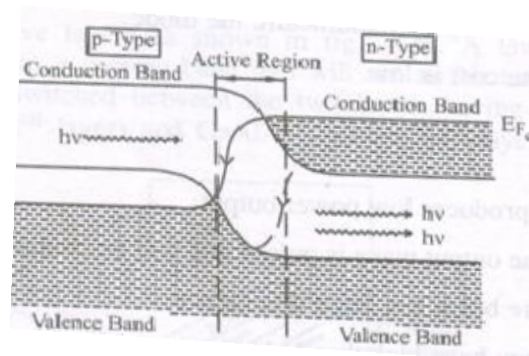

Fig.5.15
- (iii) At this junction, if a radiation having frequency ( $\gamma$ ) is made to incident on the p-n-junction then the photon emission is produced as shown in figure 5.15.